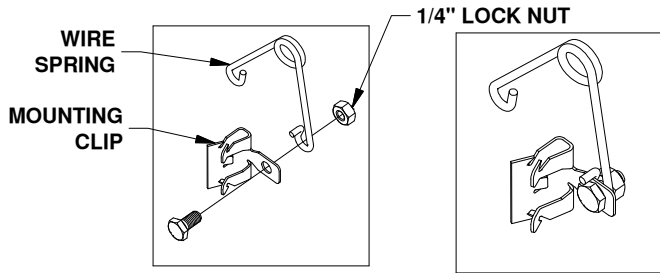

Figure B1:
1. Locate the 1/4" cap screw and nut, along with the wire tension spring and mounting clip. Pass the 1/4" cap screw through the mounting clip and the wire spring as shown in Figure B1. Thread the 1/4" lock nut onto the 1/4" cap screw. Tighten the lock nut just enough that the spring will stay in place but will still be able to rotate around the bolt if needed, see Figure B2.